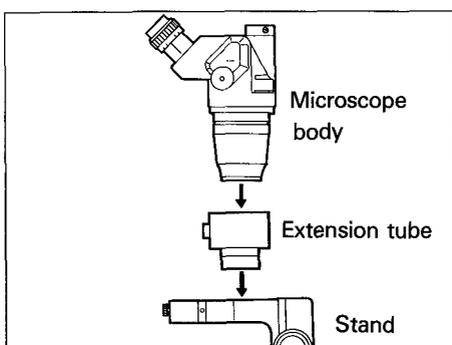

Fig. 8
- (1) Screw the conversion lens into the mounting thread at the bottom of the microscope body.
- (2) As the working distance of the 0.5X conversion lens (110AL0.5X and 100AL0.5X) is long, use the extension tube (VM-ET) when making observations using the stand. (Fig. 8)